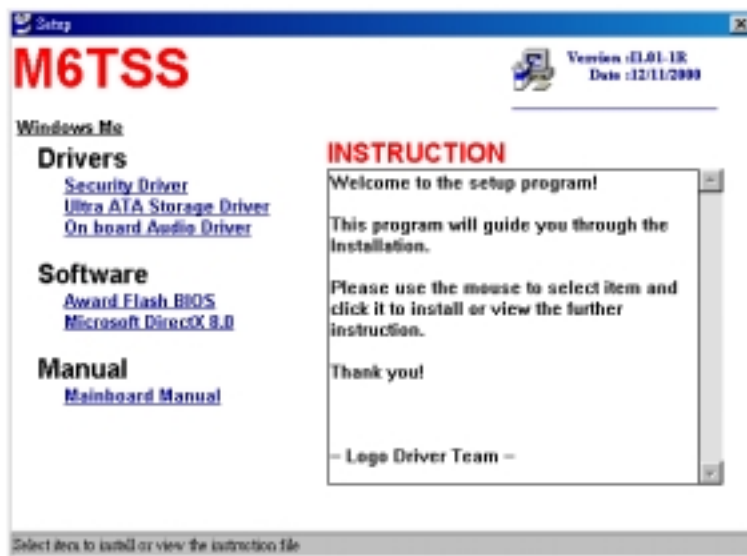

Figure 1 Installation Wizard Main Page
1. When selecting the On board Audio Driver (See Figure 1 , section 3.3)
You can simply put Driver CD into CD-ROM drive. The Installation wizard will show to you main board's name(see fig1 , **section 3.3**). You can watch the left top side on the tabled.